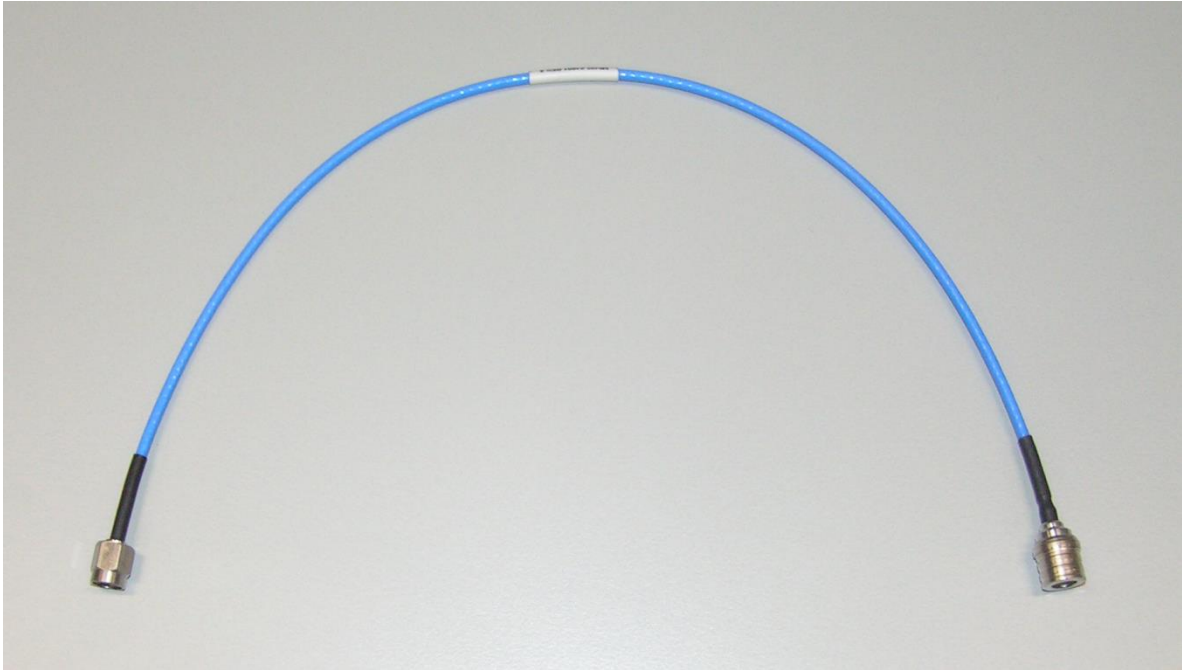

Figure 3 M8197-61601 QMA to SMA clock cable
- Four clock cables with a QMA connector at one end and a SMA connector at the other end. See Figure 3.